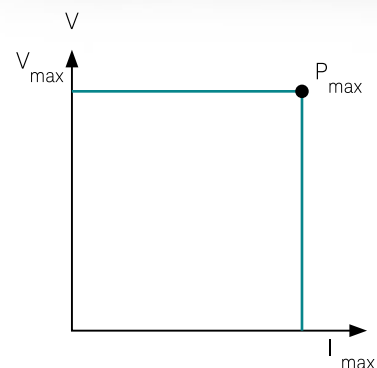

Figure 5. A rectangular output characteristic has a single maximum power point
1. Rectangular output – The rectangular or single range is the most common output characteristic. All voltage and current combinations are valid up to the maximum voltage and maximum current; see Figure 5.